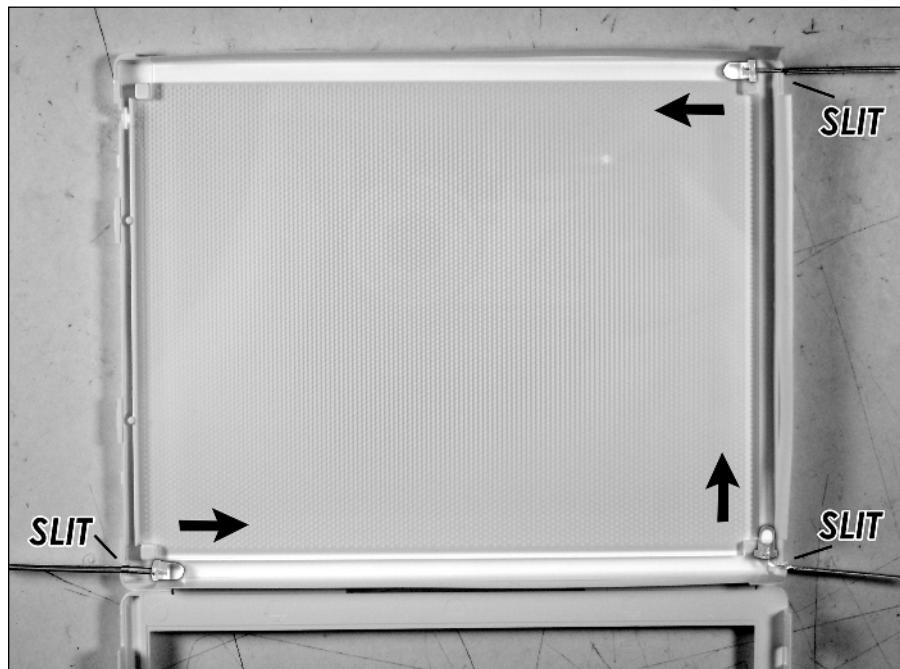

FIGURE 4-25: Where to make slits and how to place the LEDs.
2. Now it's time to insert some white LEDs! Make vertical slits in the sides of the light box plastic, as shown in Figure 4-25. These slits should be just wide enough for the LED leads and the space between them to fit through. (Remember to make a corresponding slit in the fold-down plastic frame for the upper right-hand slit.)
3. Next, place three 3-mm white LEDs, as indicated in Figure 4-25, with the bulbs pointing in the direction of the arrows. Have the leads go through the slits and keep all of the long positive leads facing out, toward the screen side, in order to make wiring easier. Each LED should aim down the channel where the bulb once was. Once placed correctly, put some hot glue behind each LED (on its leads) to hold it. Watch out for strings of hot glue that might get on the screen. (Use your Chapter 2 skills!)